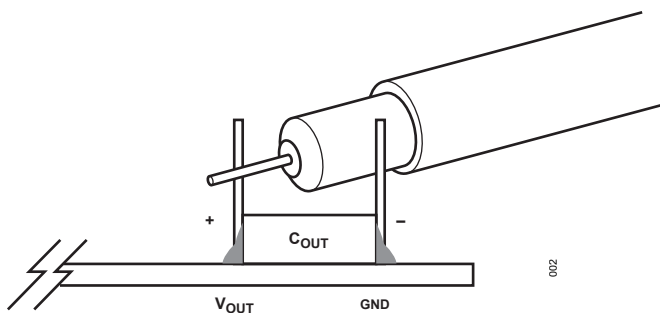

Figure 2. Measuring Output Voltage Ripple
**NOTE:** When measuring the input or output voltage ripple, care must be taken to avoid a long ground lead on the oscilloscope probe. Measure the input or output voltage ripple by touching the probe tip directly across the  $V_{IN}$  or  $V_{OUT}$  and GND terminals. See Figure 2 for the proper scope probe technique.
**NOTE:** Once the proper output voltages are established, adjust the loads within the operating range and observe the output voltage regulation, ripple voltage, efficiency, and other parameters directly across the  $V_{IN}$  or  $V_{OUT}$  and GND terminals. See Figure 2 for the proper scope probe technique.